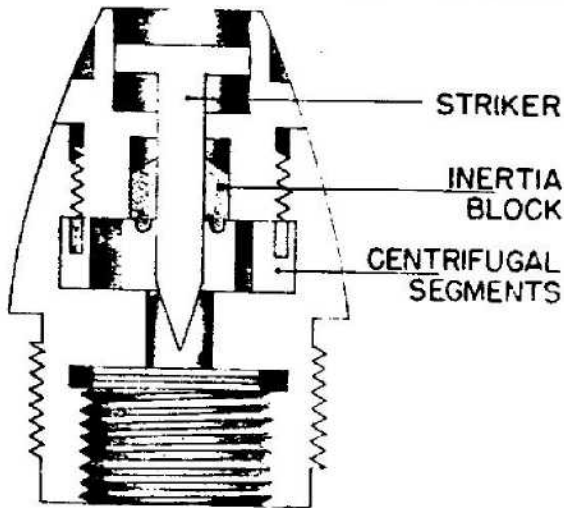

Figure 552—A. Z. 1502 F
**EMPLOYMENT:** Nose fuze used on German 20-mm. ammunition. (See fig. 552.)